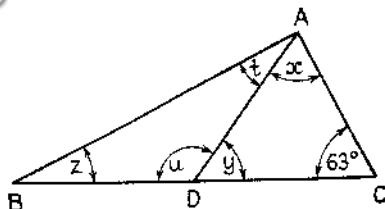

Fig. 15
(4) The triangle  $ABC$  shown in fig. 15 has a right angle at  $A$  and the sides  $BD$ ,  $DC$ , and  $AD$  are all equal. Find the angles of the triangle  $ABD$  and  $ADC$ .